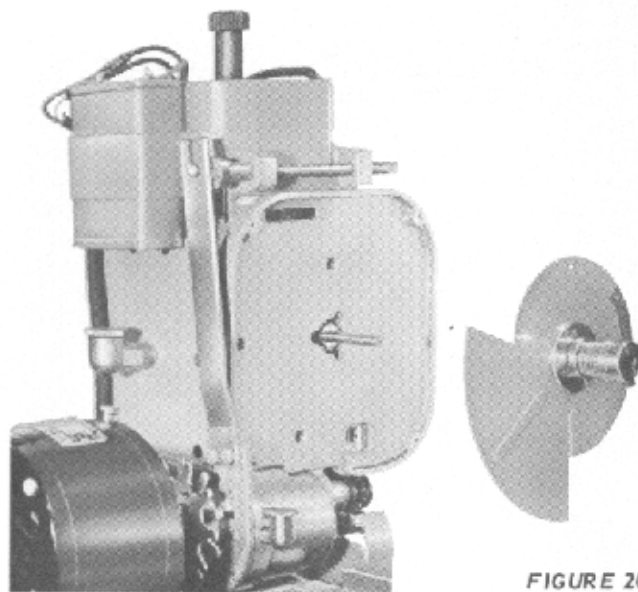

FIGURE 20
b. Loosen the two SETSCREWS in the hub of the shutter spring coupling and pull the shutter from the shaft. Be careful not to damage the coupling when removing the shutter. The shutter is shown removed in figure 20.